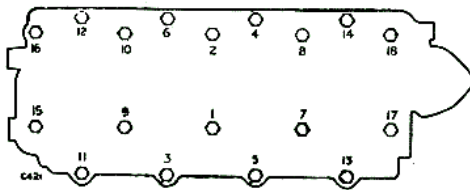

Fig. A-420—Order of tightening cylinder head bolts
7. Tighten down the cylinder head bolts in the order indicated by Fig. A-420. The $\frac{1}{4}$ in. U.N.F. bolts, including those that also secure the rocker brackets must be pulled down to 75 lb/ft. (10,3 Kg/m) whilst the $\frac{5}{16}$ in. U.N.F. bolts securing the rocker brackets only are pulled down to 12-13 lb/ft. (1,6-1,7 Kg/m).